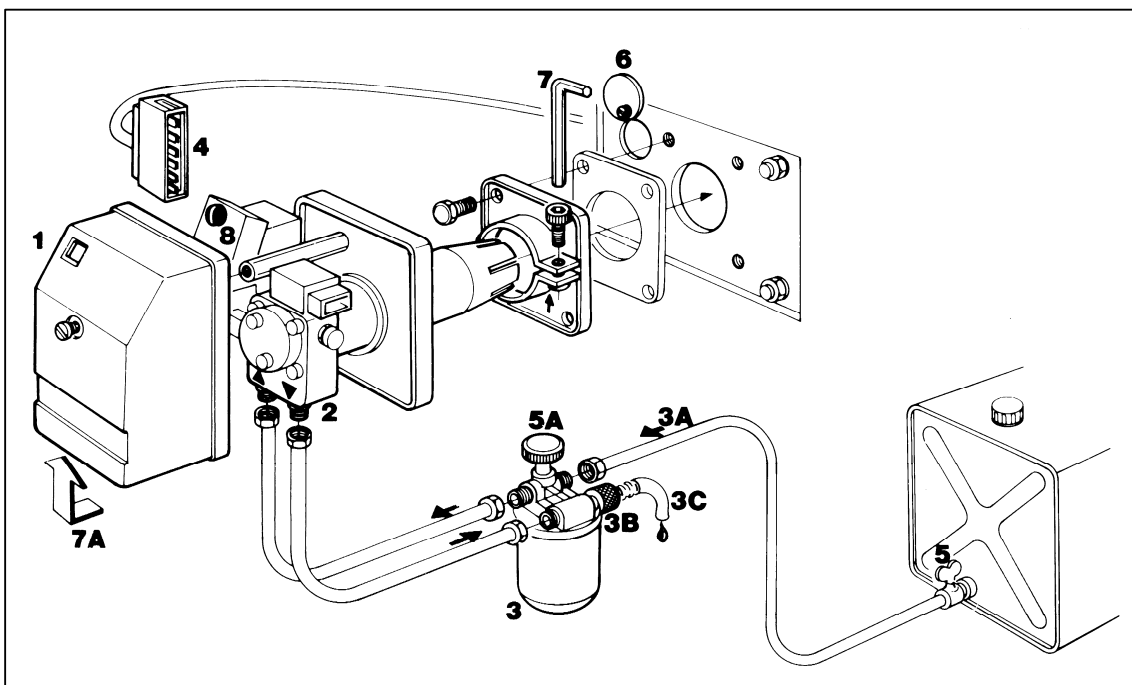

Figure 11
4. Lift the burner a little (figure 11) according to **7A**;
5. Fasten bolt **7** (figure 11) on the flange to clamp the burner;
To connect the filter to the boiler follow the procedure below (see also figure 11)
5. Start the oil burner (figure 11)